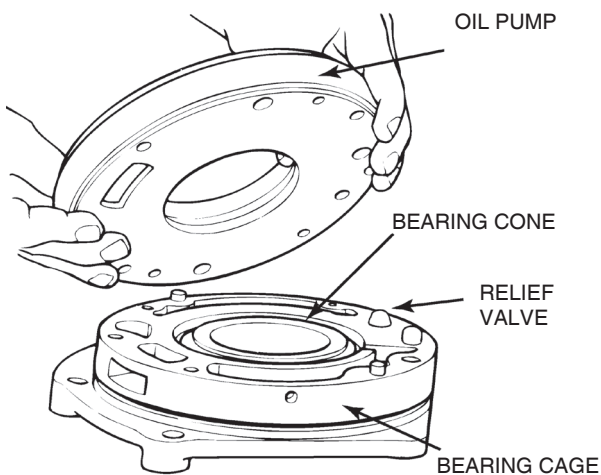

Figure 3.35
D. Remove the capscrews that fasten the oil pump to bearing cage from the input shaft. Separate the oil pump from the cage. Figure 3.35.